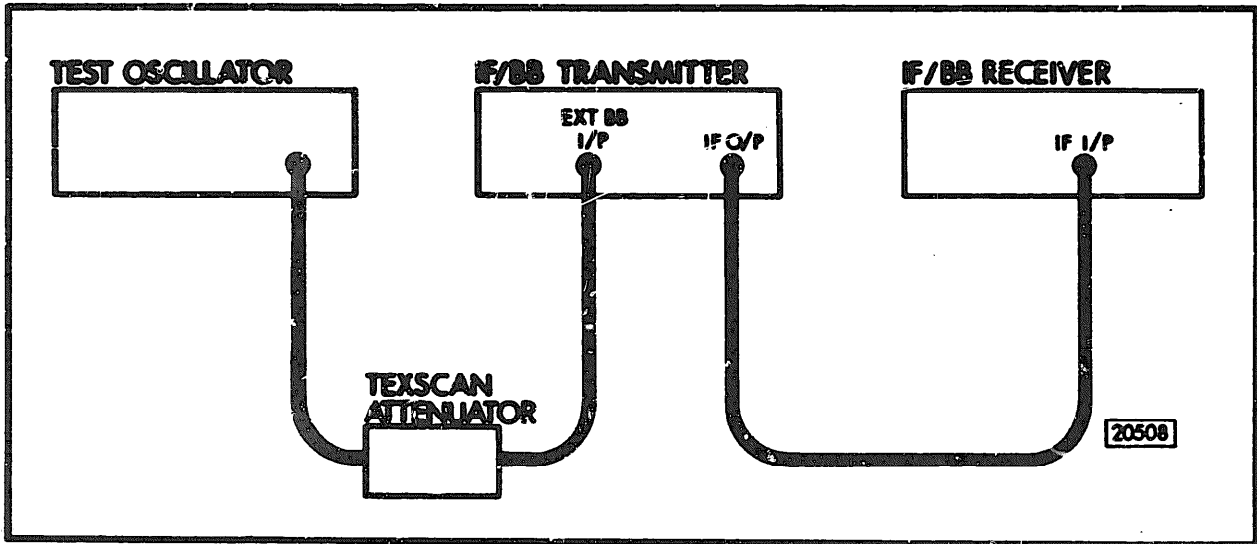
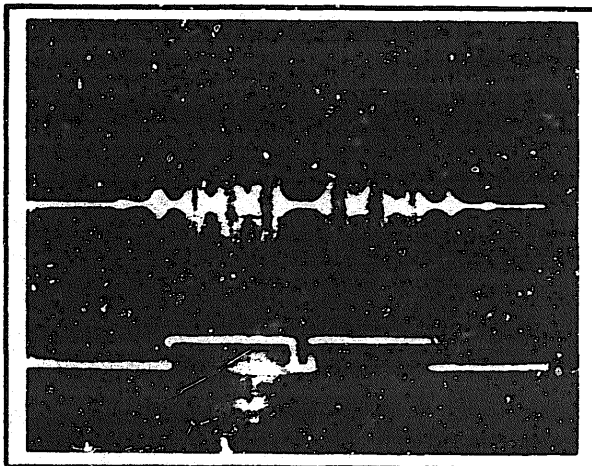

Figure 4-14 Spectrum Check
Figure 4-15 Carrier Null
14. Connect the equipment as in Figure 4-14: Set the Test Oscillator frequency to 83.3kHz and the output level to -10dBm 75 Ω UNBAL. Set the Texscan Attenuator or 0.5dB. Set the Transmitter DEVIATION to 140kHz.
15. Adjust the SPECTRUM WIDTH control (4) to give a display of two or three pairs of sidebands.
16. Turn the Y2 GAIN (7) fully clockwise and adj adjust the Test Oscillator Amplitude control to produce a carrier null on the display. See Figure 4-15.